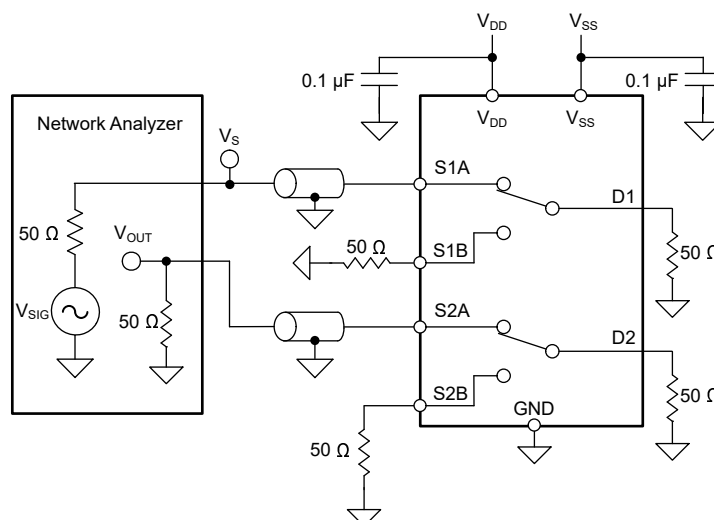

Figure 7-16. Inter-Channel Crosstalk Measurement Setup
2. Inter-channel crosstalk ($X_{TALK(INTER)}$): the voltage at the source pin (S_x) of an on-switch input, when a 1- V_{RMS} signal is applied at the source pin of an on-switch input in a different channel, as shown in Figure 7-16.